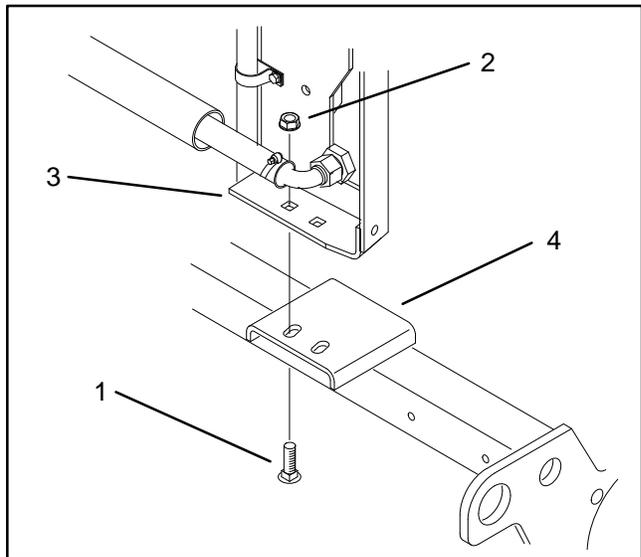
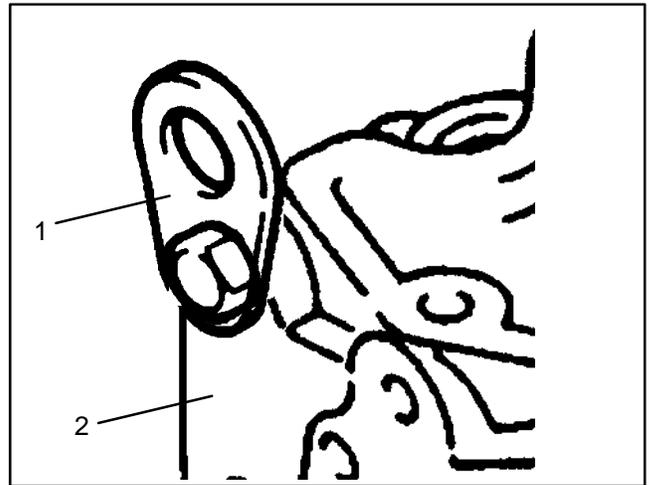

Figure 23
Figure 24
- C. Remove carriage bolts (1) and whiz nuts (2) from the radiator bracket (3) and frame (4) (Fig. 23).
A. Attach short section of chain between both lift tabs (1) located on each end of the cylinder head (2) (Fig. 24)
B. Connect a hoist or chain fall at the center of the short section of chain. Apply enough tension on the short chain so that the engine will be supported when the cap screws (42) securing the engine mount brackets (22, 34, and 46) are removed.
C. Remove cap screws (42) and flange nuts (27) from the engine mount brackets (22, 34, and 46) and the frame.
D. Remove engine (25) from the frame.
C. Reinstall engine (25) onto the frame. Make sure fastener holes of the mount brackets (22, 34, and 46) are aligned with the holes on the frame.
D. Secure cap screws (42) and flange nuts (27) to the mount brackets (22, 34, and 46) and frame.
E. On the right rear mount bracket (46), tighten cap screws (36). Torque cap screws from 34 to 42 ft–lb (4.7 to 5.8 kg–m).
D. Install carriage bolts (1) and whiz nuts (2) to the radiator bracket (3) and frame (4) (Fig. 23).